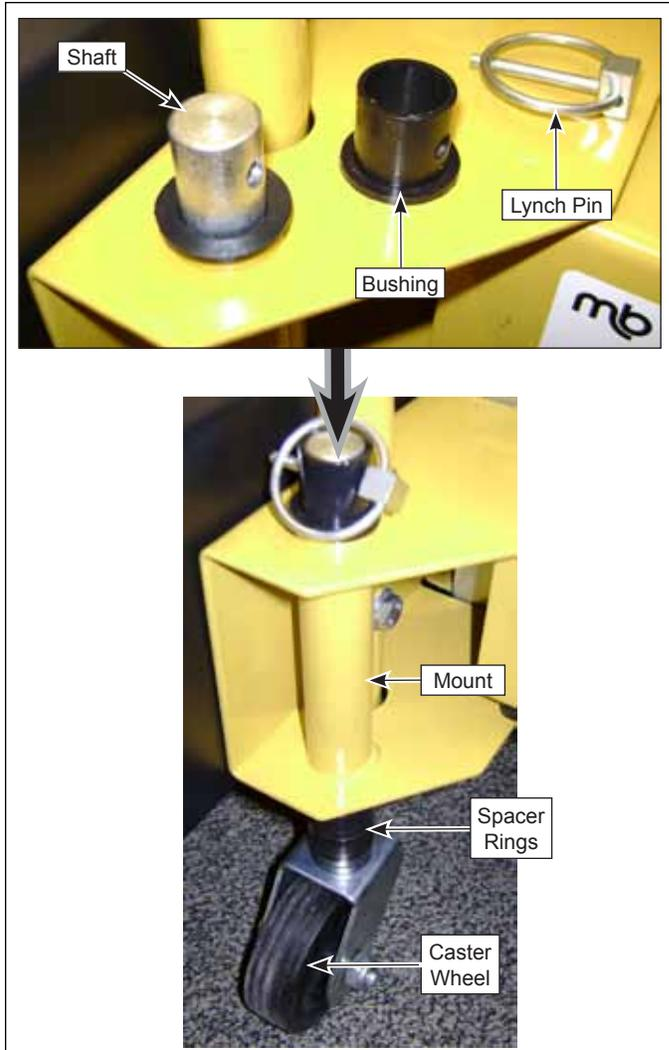

Figure 7
2. Remove lynch pin and plastic sleeve bushing from top of caster wheel shaft. See Figure 7.